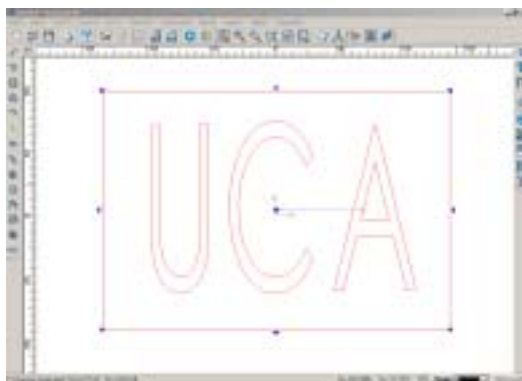

Fig. 10-26
1. Input text "UCA" and draw a rectangle around it in the drawing window. (Fig. 10-26)